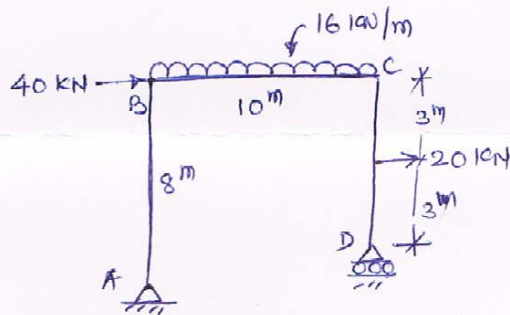

Fig. 3 (Q.5 (a))
Q.5 (a) Draw SFD, BMD and AFD for the portal frame shown in fig. 3. **07**